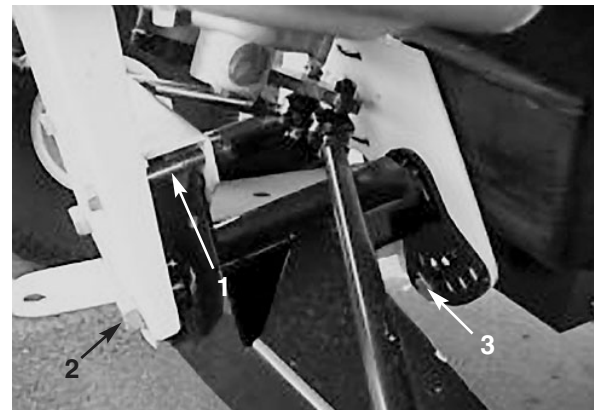

Figure 24
2. Remove the travel limiting bolt (Fig. 24).
3. Loosen the centering bolts in the front “A” frame (Fig. 24).
(Fig. 24).
5. Rotate the front “A” frame to desired position (Fig. 24). The distance from the bottom side of the front hitch to the ground should be 9 to 9-¾ in. (22.9 to 24.8 cm) with the tires inflated to 12 psi (83 kPa).
6. Replace the ride height adjustment bolt and the travel limiting bolt (Fig. 24).